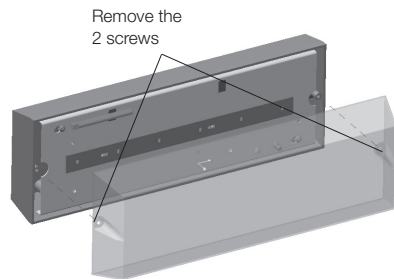

Figure 1
2. Remove the diffuser as shown in figure 1.
3. Remove the diffuser as shown in figure 1.
10. Re-install the diffuser as shown in figure 1.